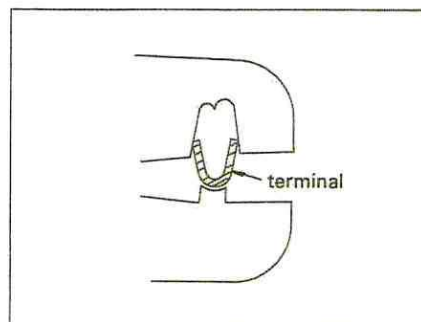

Fig. 2
- (4) Squeeze handles gently until the terminal is held by the dies per Fig. 2. Do not deform the terminal at this stage.